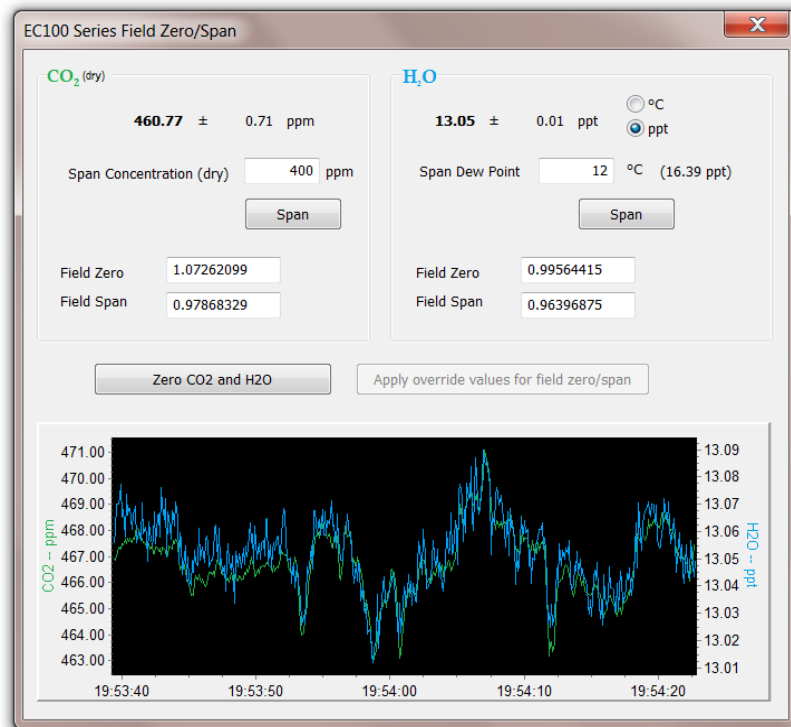

FIGURE 7-2. *ECMon* zero-and-span window
10. Click **Zero/Span**. A graph will appear in the lower half of the zero-and-span window showing measured CO2 and H2O concentrations (see FIGURE 7-2).